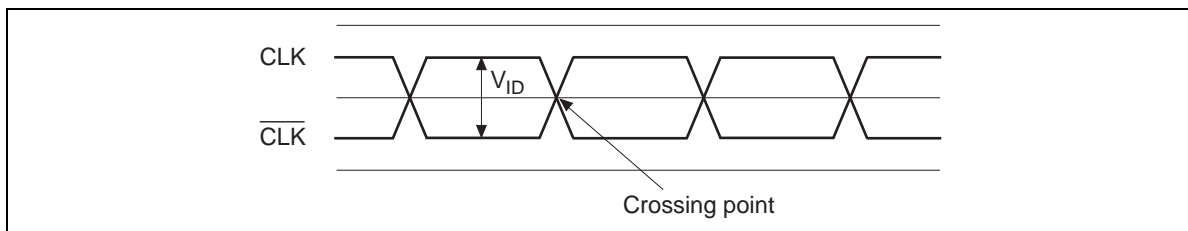

Figure 1 Differential input levels
- Differential cross point voltage is expected to track variations of V_{DDQ} and is the voltage at which the differential signals must be crossing. (See figure1)